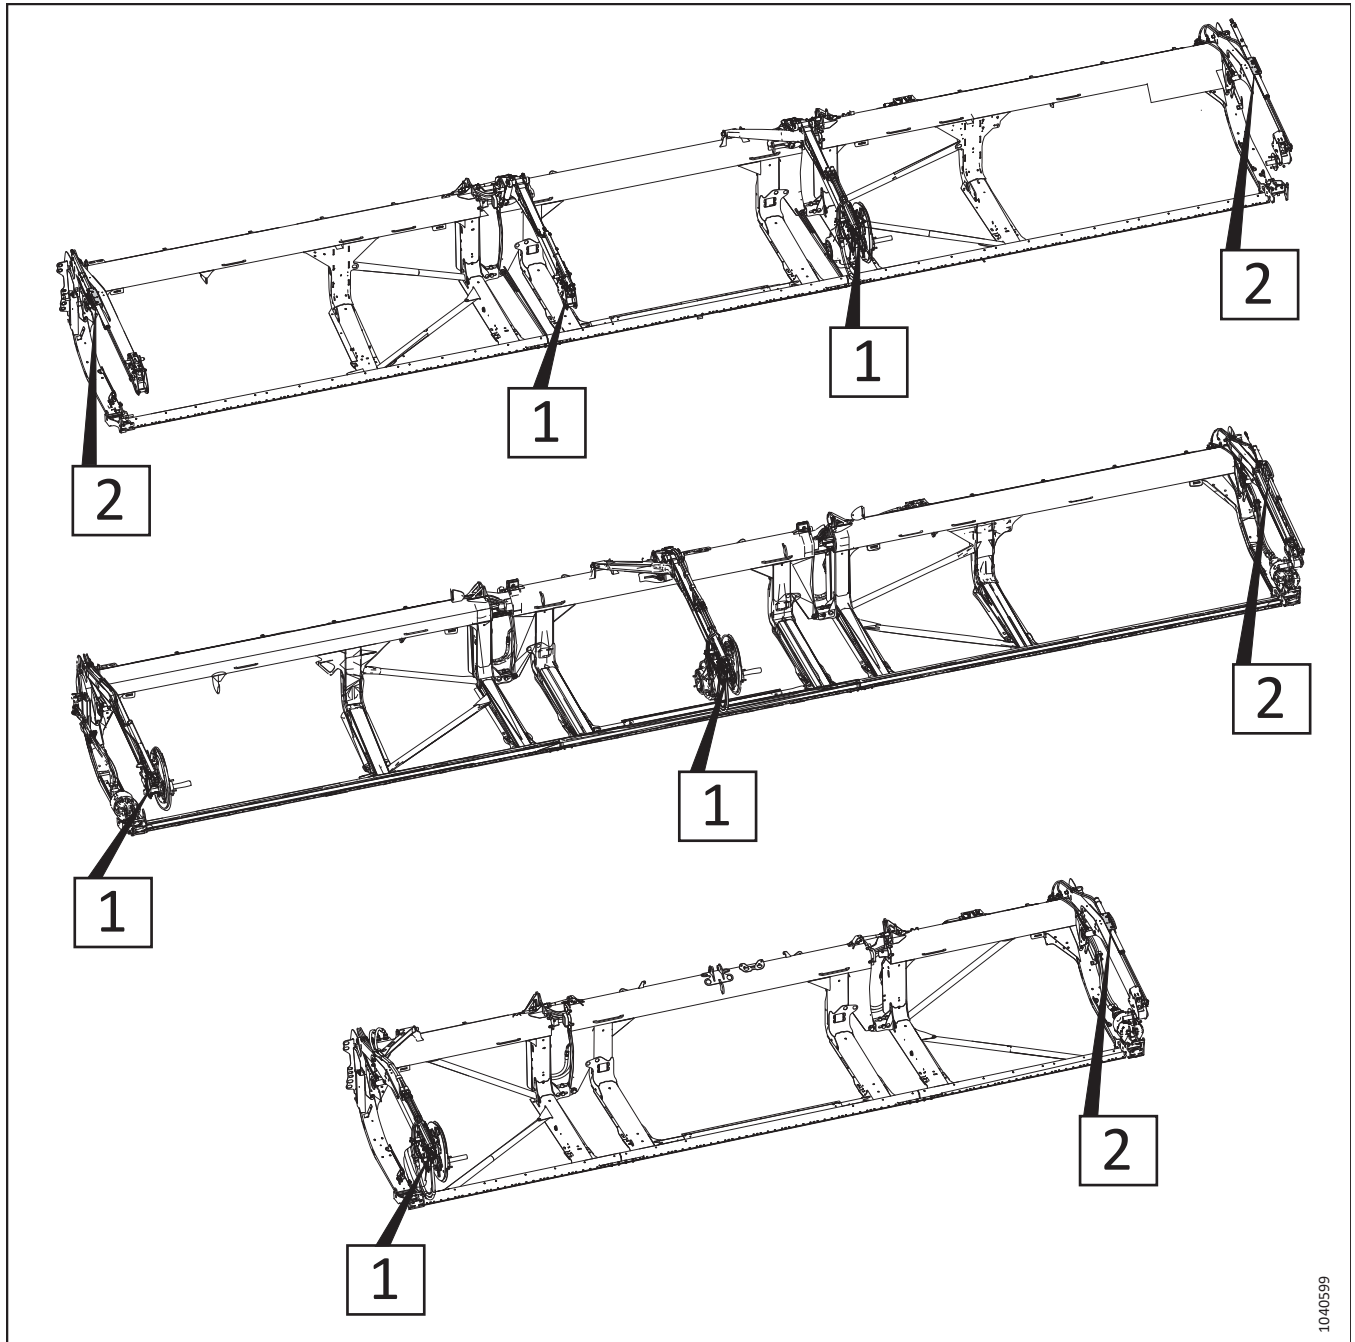

Figure 3.198: Adjustable Fore-Aft Cylinders – Procedure Reference Numbers
6. Refer to Figure 3.198, page 169 to determine the fore-aft cylinder adjustment procedures for your header type. The number on the illustration refers to one of the following procedures: